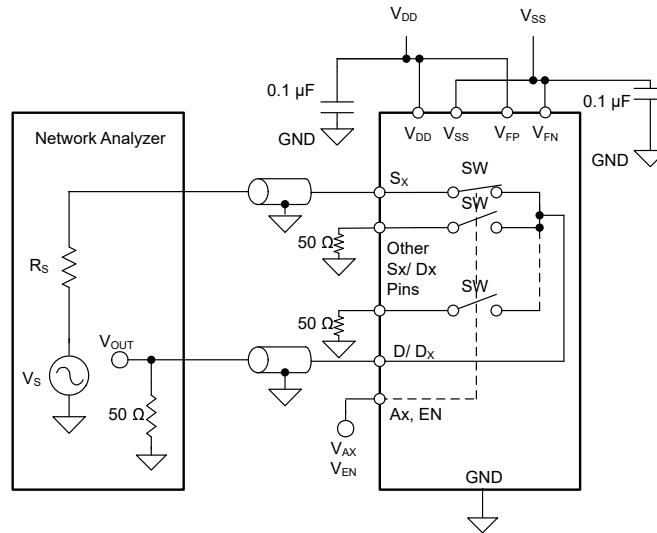

図 6-16. Bandwidth Measurement Setup
Bandwidth (BW) is defined as the range of frequencies that are attenuated by < 3 dB when the input is applied to the source pin (S_x) of an on-channel, and the output is measured at the drain pin (D) of the TMUX582F-SEP. 図 6-16 and 式 3 shows the setup used to measure bandwidth of the switch.